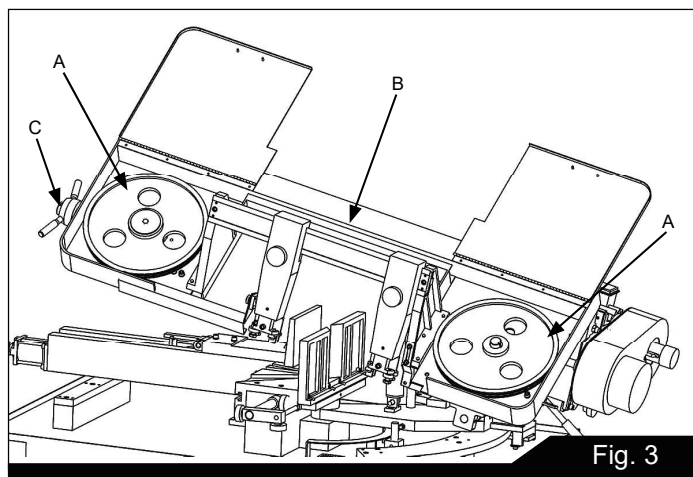

Fig. 3
4. Release blade tension by turning the blade tension handwheel (C) Fig. 3 counterclockwise.
7. Place the blade in place on the wheels (A) and through the upper blade guard (B) Fig. 3 is shown with the wheel covers removed for clarity.